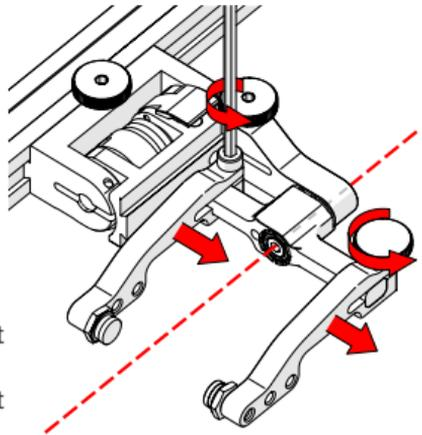

Fig. 93 - Adjust probe holder arms
- Loosen the probe holder arm adjustment knob (Fig. 93) and remove the outer probe holder arm from yoke.
- Adjust the inner probe holder arm as required to best centre the probe on the yoke's pivot axis (Fig. 93).
**TIP:** The probe holder yoke can accommodate many different probe and wedge sizes of varying widths. It is best to centre the wedge with the yoke's pivot axis to reduce wedge tipping when scanning. Position the inner probe holder arm accordingly with the centre of the yoke (Fig. 93).